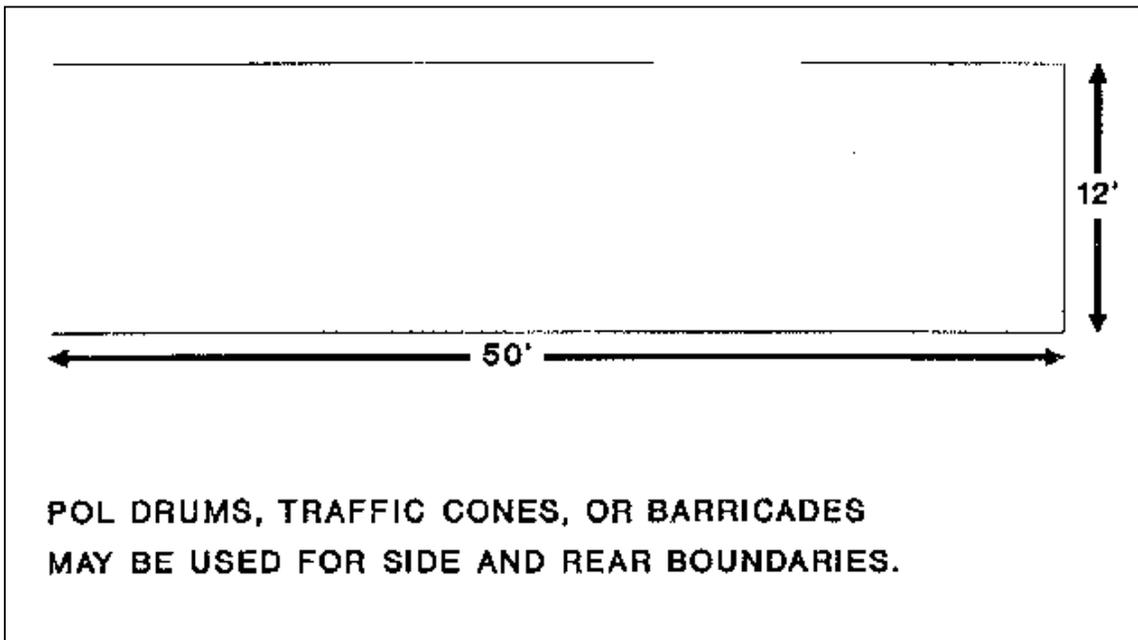

Figure 6-8. Light Vehicle Straight Line Backing.
- Figure 6-8, light vehicle straight line backing.